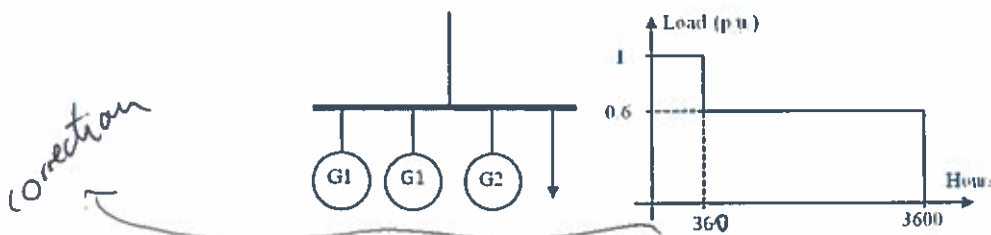

Figure Q4.1- Generator set and load duration curve.
b) A load is supplied from a network plus three distributed generators connected at the same busbar (see Figure Q4.1). Two of the generators have the same characteristics and are denoted as G1, while the third generator is G2. The ratings of generators G1 and G2 are 5MW and 10MW, respectively. The availabilities of generators G1 and G2 are 90% and 80%, respectively. The load is represented by a winter load duration curve with 360 hours at peak (1 p.u.) and the rest of the winter at the off-peak level of 0.6 p.u. (see Figure Q4.1).